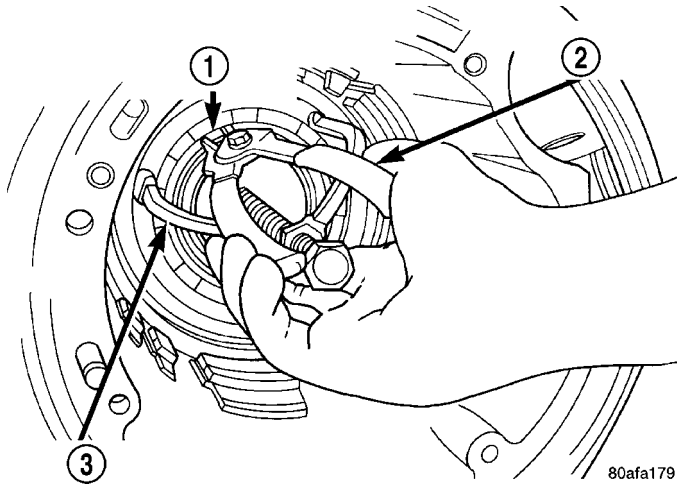

Fig. 74 Remove Snap Ring
(57) Compress low/reverse piston return spring and remove snap ring (Fig. 74).